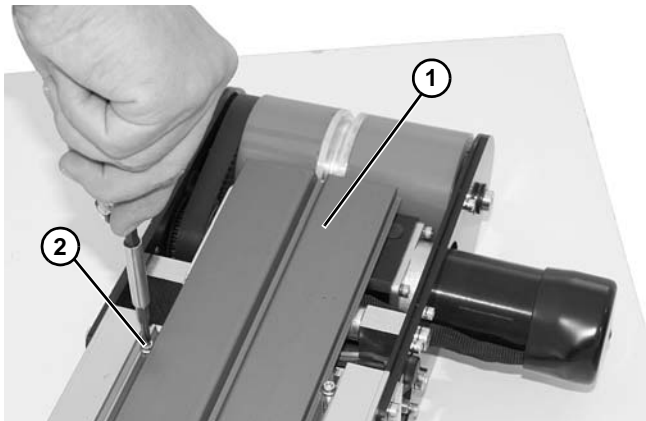

Figure 157
2. Remove wear plate (Figure 157, item 1) by removing plate fastening screws (Figure 157, item 2) on each side and end of conveyor